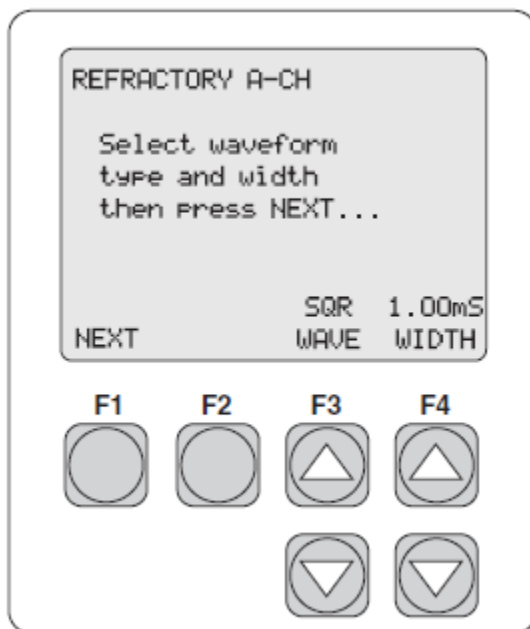

Fig. 12
- Using the down arrow under F3, (Fig 12), go to ISO 2/13 mS. and use the 1 mS. width, above F4.